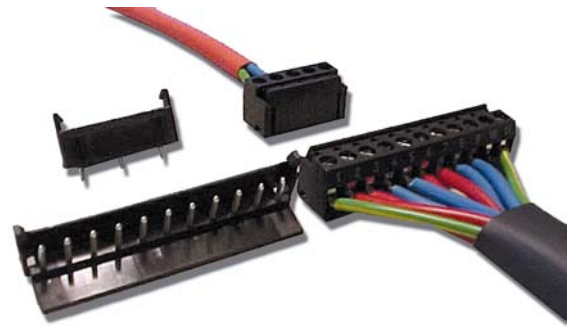

Fig. 20
Resistor  $R_{ext1}$ , connected between R (pin 2) and GND1 (pin 1) of the D-SUB connector or according to fig. 20.
**Note:** If the R function is not included in M1 or M2, refer to figure 20 how to connect  $R_{ext1}$  or  $R_{ext2}$ .
b) Adjustment by an external control voltage  $V_{ext}$  (1.25 – 2.75 V), connected between R (pin 2) and GND (pin 1) of the D-SUB connector or according to fig. 20.